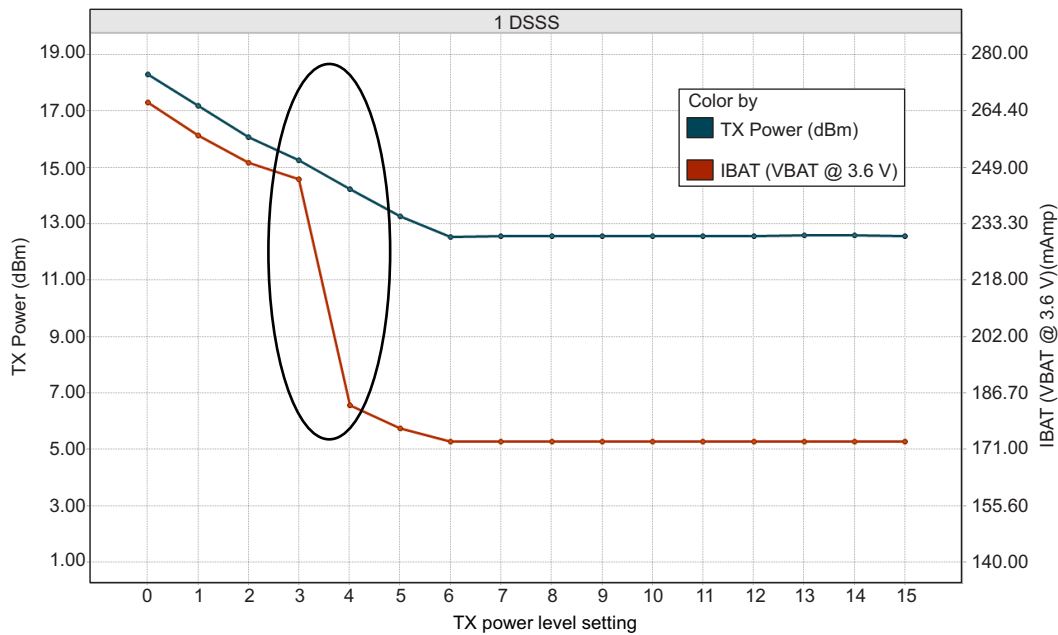
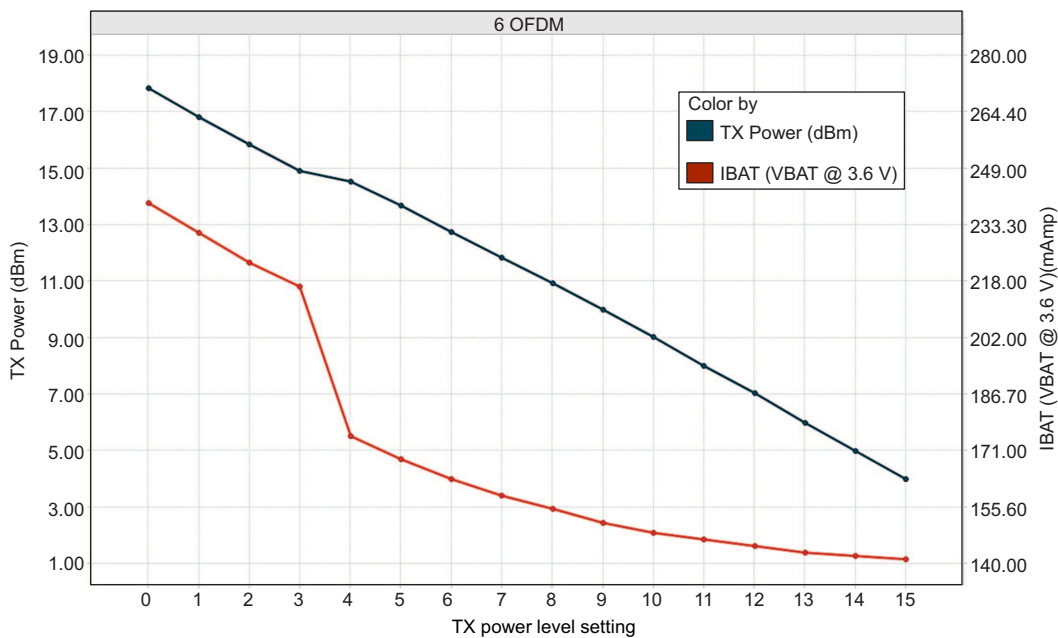
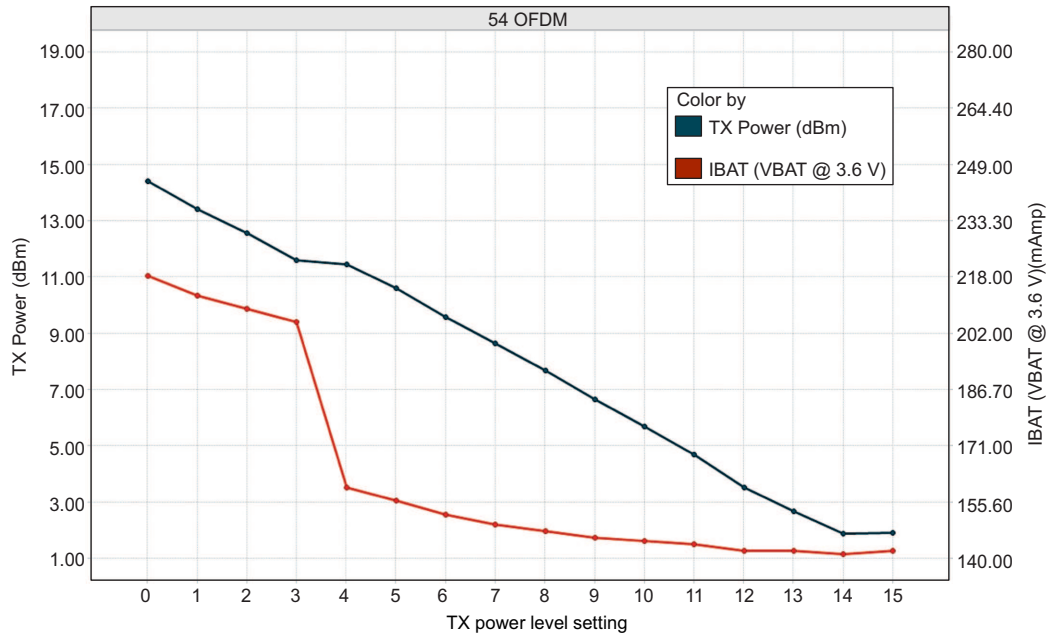

Figure 5-1. TX Power and IBAT vs TX Power Level Settings (1 DSSS)
Figure 5-2. TX Power and IBAT vs TX Power Level Settings (6 OFDM)
Figure 5-3. TX Power and IBAT vs TX Power Level Settings (54 OFDM)
- (1) TX power level = 0 implies maximum power (see Figure 5-1, Figure 5-2, and Figure 5-3). TX power level = 4 implies output power backed off approximately 4 dB.
- (2) The CC3220x system is a constant power-source system. The active current numbers scale based on the V_{BAT} voltage supplied.
- (3) DTIM = 1
(1) TX power level = 0 implies maximum power (see Figure 5-1, Figure 5-2, and Figure 5-3). TX power level = 4 implies output power backed off approximately 4 dB.
(2) The CC3220x system is a constant power-source system. The active current numbers scale based on the V_{BAT} voltage supplied.
(3) DTIM = 1
(4) LPDS current does not include the external serial flash. The LPDS number of reported is with retention of 256KB of MCU SRAM. The CC3220x device can be configured to retain 0KB, 64KB, 128KB, 192KB, or 256KB of SRAM in LPDS. Each 64-KB block of MCU retained SRAM increases LPDS current by 4 μA .
(5) The complete calibration can take up to 17 mJ of energy from the battery over a period of 24 ms. Calibration is performed sparingly, typically when coming out of HIBERNATE and only if temperature has changed by more than 20°C. The calibration event can be controlled by a configuration file in the serial Flash..
Figure 5-1, Figure 5-2, and Figure 5-3 show TX Power and IBAT versus TX power level settings for the CC3220R and CC3220S devices at modulations of 1 DSSS, 6 OFDM, and 54 OFDM, respectively. For the CC3220SF device, the IBAT current has an increase of approximately 10 mA to 15 mA depending on the transmitted rate. The TX power level will remain the same.
In Figure 5-1, the area enclosed in the circle represents a significant reduction in current during transition from TX power level 3 to level 4. In the case of lower range requirements (14-dBm output power), TI recommends using TX power level 4 to reduce the current.